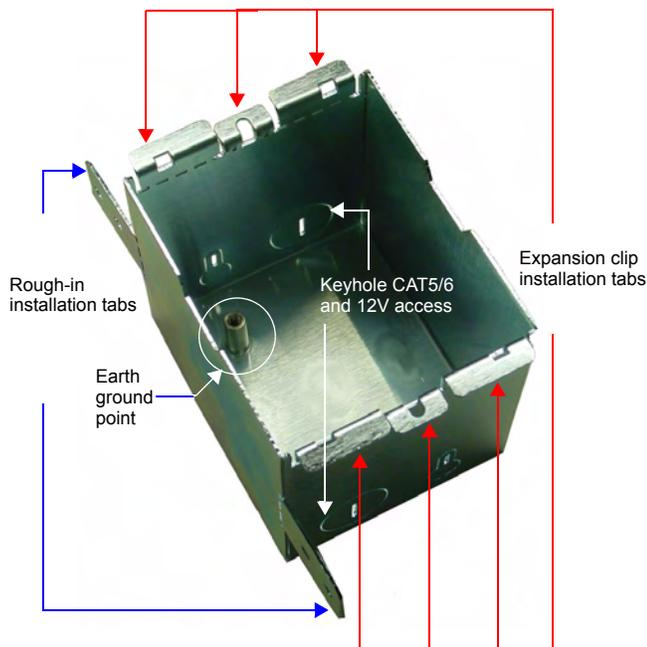

FIG. 1 Mio Modero DMS Conduit Box
1. Remove the tabs for the expansion clip installation from the conduit box by bending back and forth with pliers. See FIG. 1.
3. Run 12V or CAT5/6 cable and an Earth ground wire into the conduit box. Locations to run power wiring into the conduit box are shown in FIG. 1.
2. Remove the tabs for the rough-in installation from the conduit box by bending back and forth with pliers. See FIG. 1.
4. Thread the 2 drywall screws through the 2 locations center on both top and bottom of the conduit box (FIG. 1) and then through the expansion clips.
1. Remove both the tabs for the rough-in installation and expansion clip installation from the conduit box by bending back and forth with pliers. See FIG. 1.